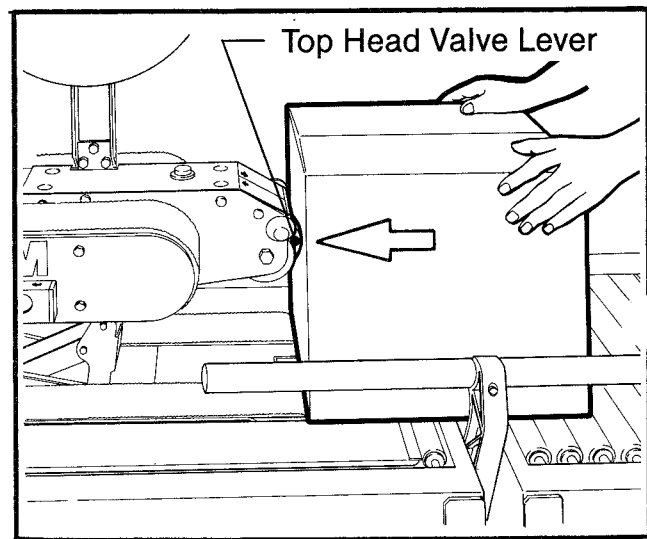

Figure 11 - Top Taping Head Valve Lever
2. Once the box is centered by the side guides, the operator pushes the box against the **valve lever** on the top taping head, as shown in Figure 11, causing the **top taping head** to be raised by two air cylinders. The top taping head will continue to rise above the box height so the operator can insert the box underneath the **top taping head drive belts**.